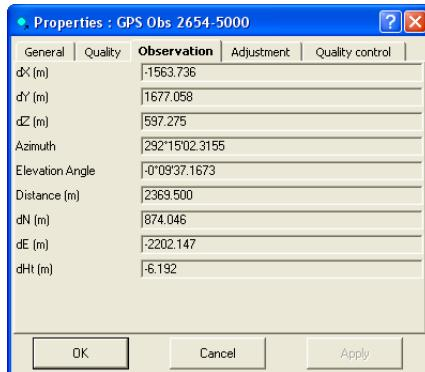

Figure 5-107. Observation Properties
3. View *Observation* tab fields which contain fields for viewing the vector solution type (dX,dY,dZ, Azimuth, Elevation Angle, Distance, dN,dE,dHt) (Figure 5-107).